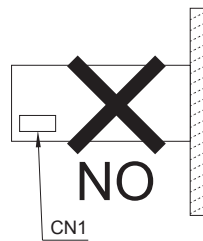

Fig. 4.4 Installation method 2
■Avoid installation method 2 as shown in Fig. 4.4, which can cause stress on the mounting holes.